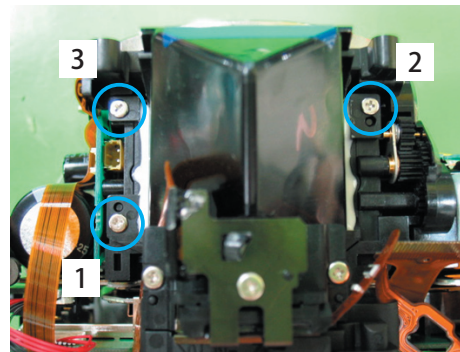

Fig. 109
(2)Screw in the order of the Fig. 109. (Screws are easy to be loose, so be careful.)